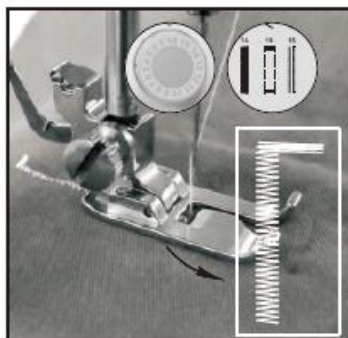

Fig.16
- 3) Choose the 16th stitch, turn on switch and sew on the cloth in suitable length, then turn off switch. Note that try to keep sewed stitches in straight line (Fig.16).